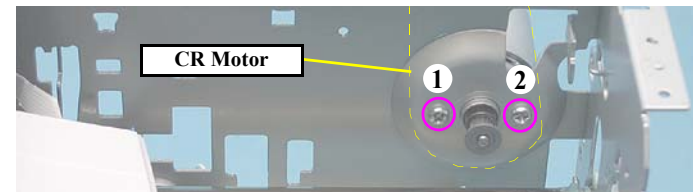

Figure 4-124. Removing the CR Motor (3)
- Tighten the screws in the order given in Fig.4-124.